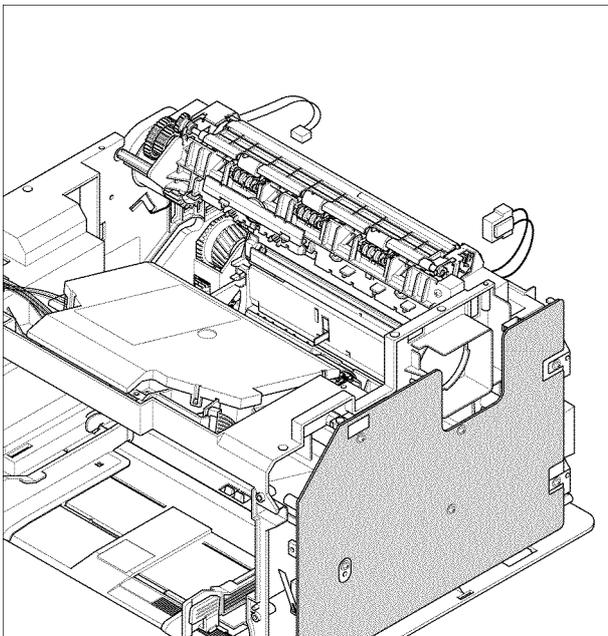

Figure 1
2. Disconnect CN 1 (Phaser 3124) / CN 4 (Phaser 3125) from the main PBA and CON 1 from the SMPS, Figure 1.